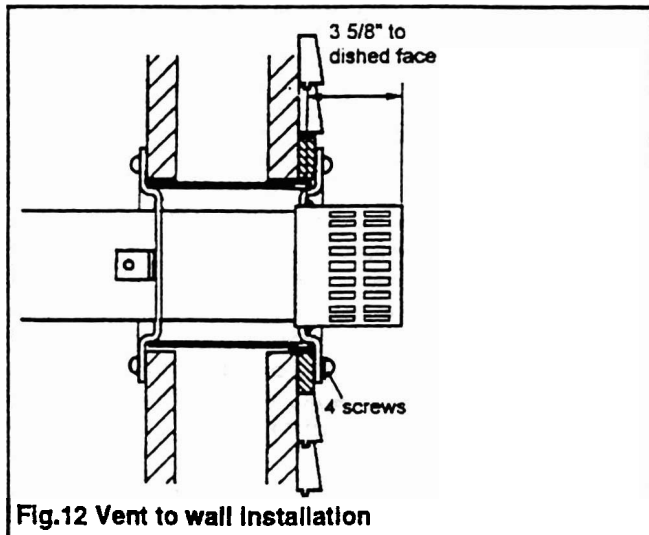

Fig.12 Vent to wall installation
- 10.11** Place the remaining wall plate over the outside wall end of the terminal with the dished projection facing inside. Push the plate up to the wall so that the dished projection locates inside the vent shield tube (see figure 12). Remove any temporary wedges. If possible while still maintaining a sound connection to the appliance, slope the terminal very slightly down towards the outside so that any rain will run away from the appliance. The terminal should never slope down into the room. This could cause water to accumulate in the appliance. Mark the wall plate fixing holes on the wall. Remove the plate.
- 10.13** Replace the wall plate locating it firmly inside the shield tube. Make sure that the slots in the terminal end cap are outside the wall plate (see figure 12).
- 10.14** Line up the screw holes. Start the mounting screws. Apply a clear silicone rubber sealant under the edges of the wall plate and tighten the screws. Apply a bead of silicone sealant around the vent tube where it exits the wall plate (see figure 12).